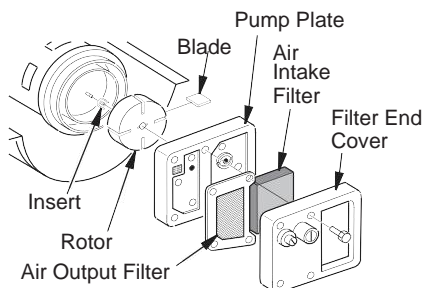

Figure 23 - Rotor Location
3. Remove filter end cover screws using 5/16" nut driver (see Figure 23).
7. Remove rotor, insert and blades (see Figure 23).